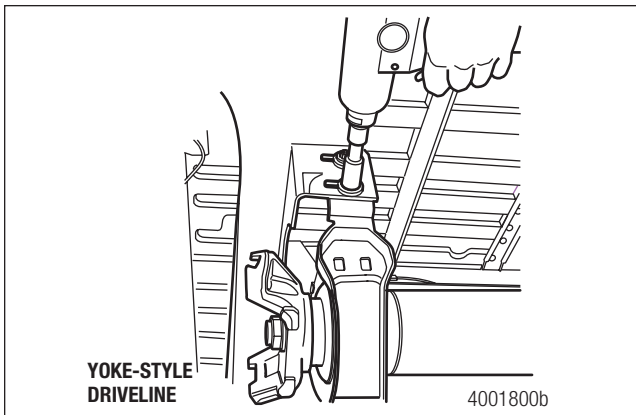
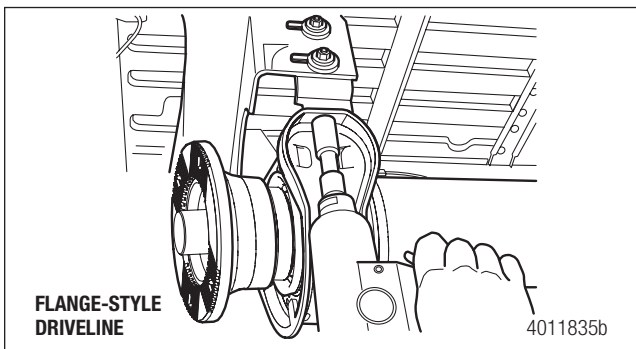

Figure 10.20
Figure 10.21
4. Install the center bearing bracket bolts. Tighten them to the vehicle manufacturer's specification. Figure 10.20 and Figure 10.21.